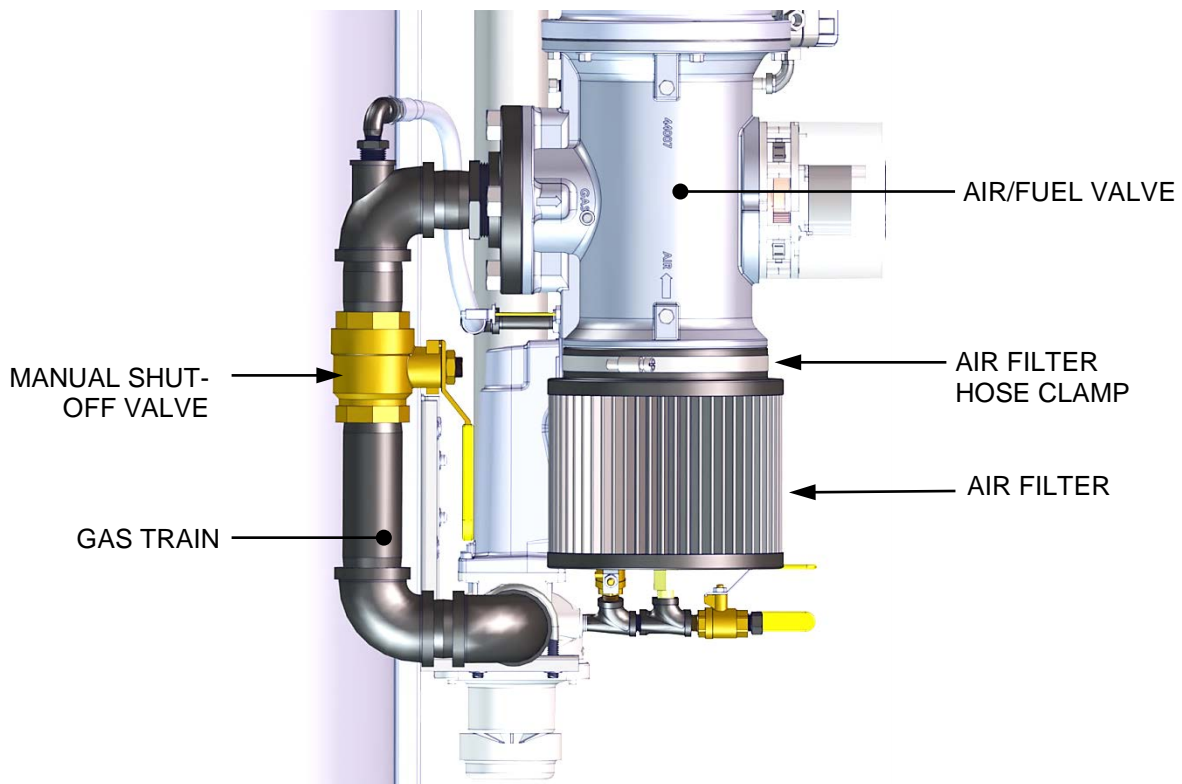

Figure 5-8: Air Filter Location (BMK 1500/2000 Shown)
The Benchmark boiler is equipped with an air filter which should be cleaned and re-oiled every 12 months and replaced every 24 months. The air filter is located at the air fuel valve inlet, as shown in Figure 5-8.
2. Remove the top shroud from the unit by grasping the top handle and lifting straight up. This will disengage the shroud from the four (4) pins in the side panels.
3. Refer to Figure 5-8 and locate the air filter attached to the air/fuel valve inlet.